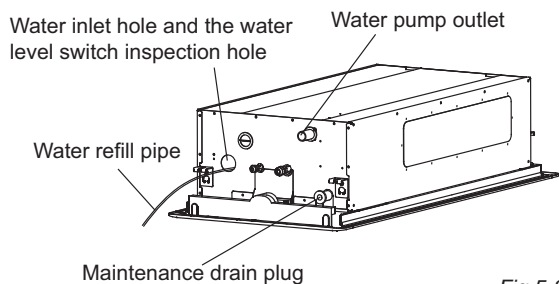

Fig.5-3
- 1) Remove the water testing cover and through the water testing orifice, use the refilling pipe to fill 2000ml water into the water pond (refers to Fig.5-3).
The drain plug on the side of the main unit is using for dewatering the water pond when the air conditioner came out fault and maintaining, while using the unit please stuff this drain plug, for avoiding leakage. The specified position of the drain plug please refers to Fig.5-3.